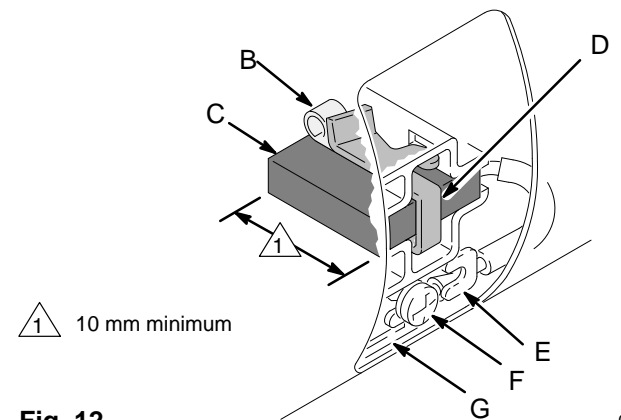
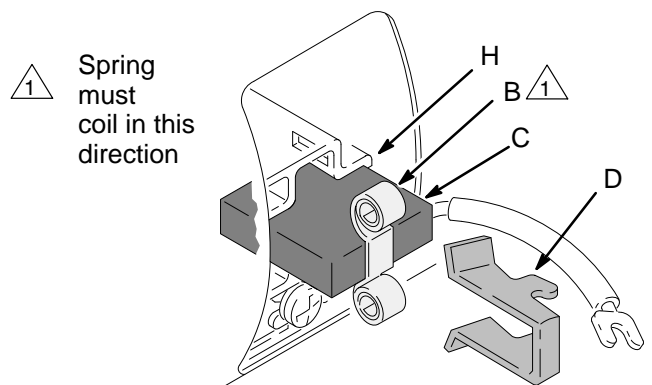

Fig. 12
Fig. 13
NOTE: Replace the brushes when they have worn to less than 10 mm. See Fig. 12. Always replace both brushes at the same time. A Brush Repair Kit, 220–853, and spring clip, 110–816, are available.
3. *Loosen* the terminal screw (F). Pull the brush lead (E) away, leaving the motor lead (G) in place. Remove the brush (C) and spring (B). See Fig. 12.
5. Install the new brush (C) so its lead is in the long slot (H) of the holder. See Fig. 13. Slide the terminal (E) under the terminal screw washer. Make sure the motor lead (G) is still connected the at the screw. Tighten the screw (F). See Fig. 12.
6. Place the spring (B) on the brush as shown in Fig. 13. The spring must coil as shown.
7. Push in and hook the spring clip (D). See Fig. 13.
9. Test the brushes. Remove the connecting rod pin (50). See 15, page 14. With the sprayer off, turn the pressure control knob fully counterclockwise to minimum pressure. Plug in the sprayer. Turn the sprayer on. Slowly increase the pressure until the motor is at full speed. Inspect the brush and commutator contact area for excessive arcing. Arcs should not “trail” or circle around the commutator surface.